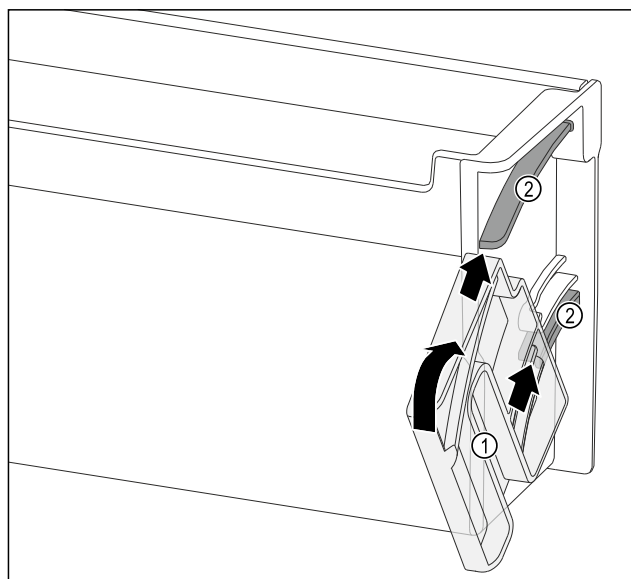

Fig. 158
- Position the swivel unit Fig. 158 (1) so that the recesses are exactly opposite the guide channels Fig. 158 (2) of the door racks.
- Turn the swivel unit Fig. 158 (1) in the specified direction.